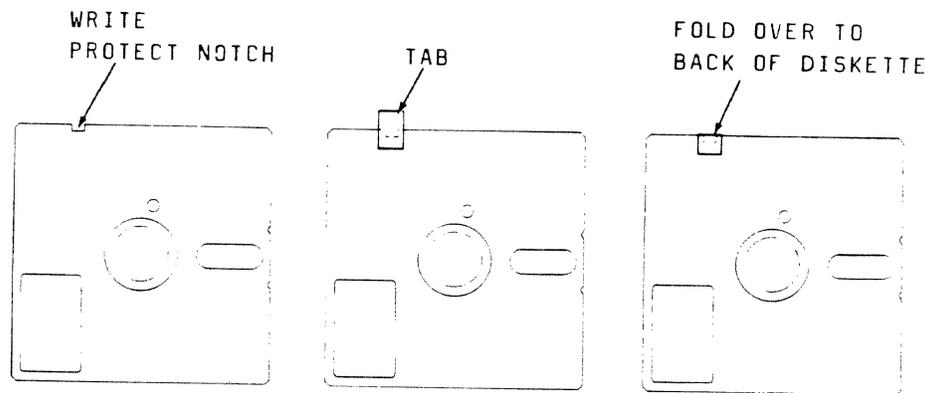

Figure B.2
1. Locate the write protect notch on the diskette. See Fig. B.2.